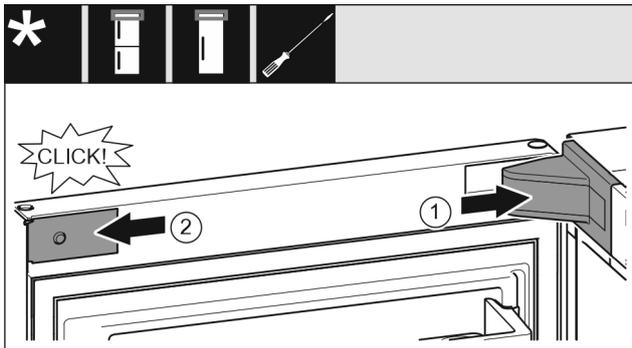

Fig. 23
- ▶ Position the bearing bracket and latch it in place. If necessary push it apart carefully. *Fig. 23 (1)*
- ▶ Position the panel on the side and latch into place. *Fig. 23 (2)*